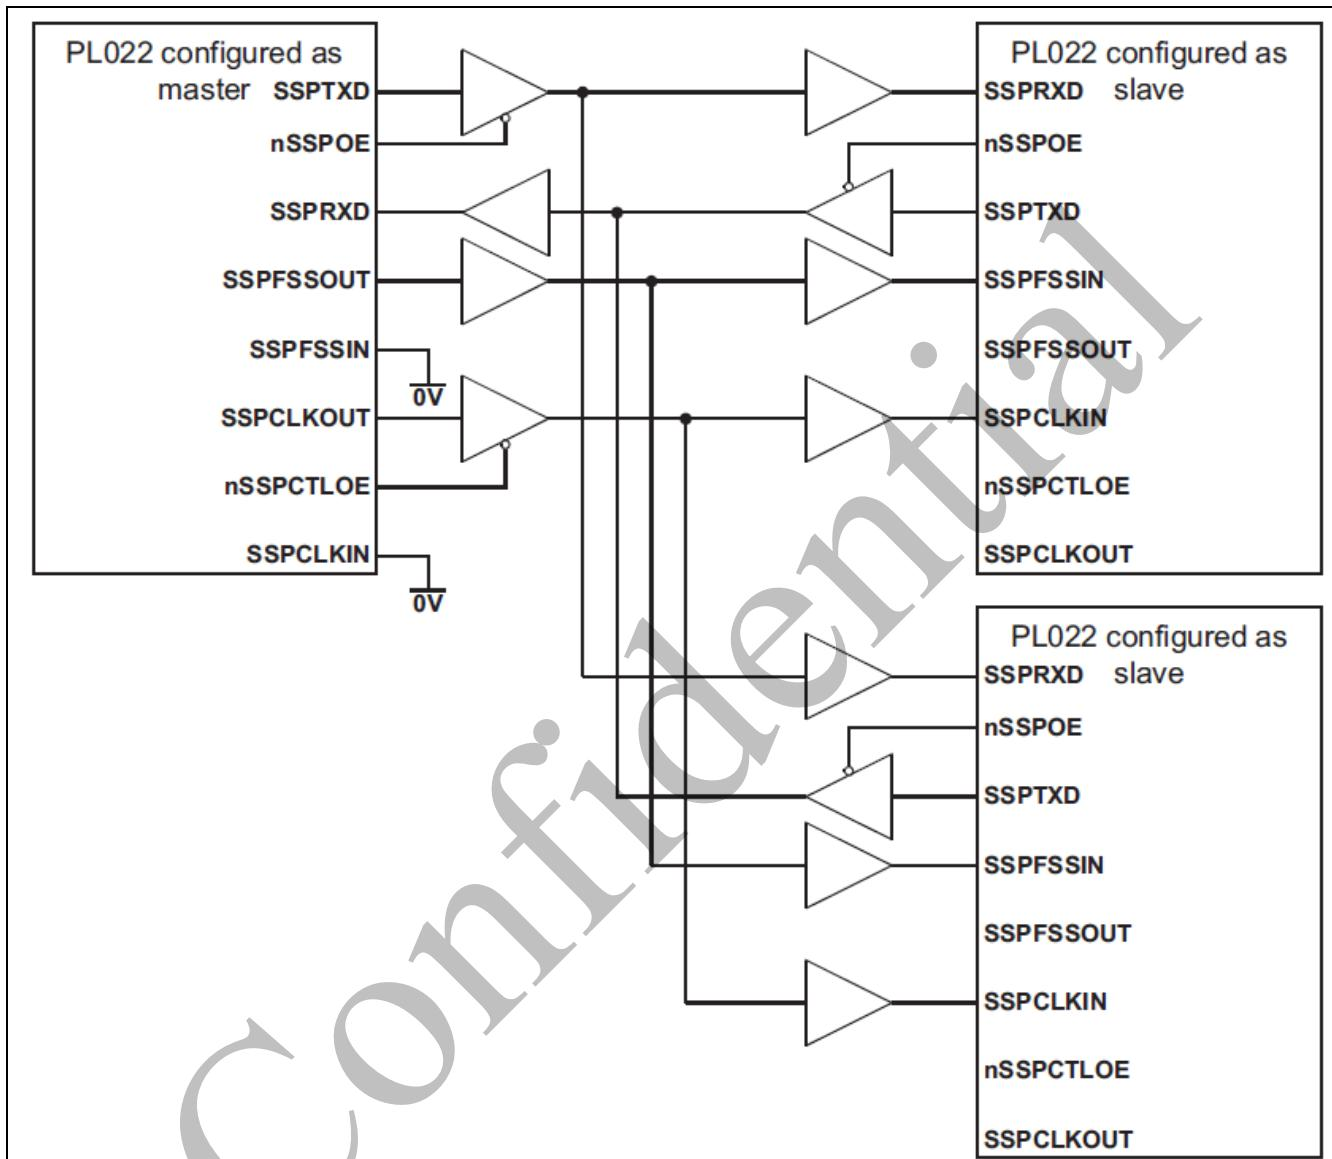
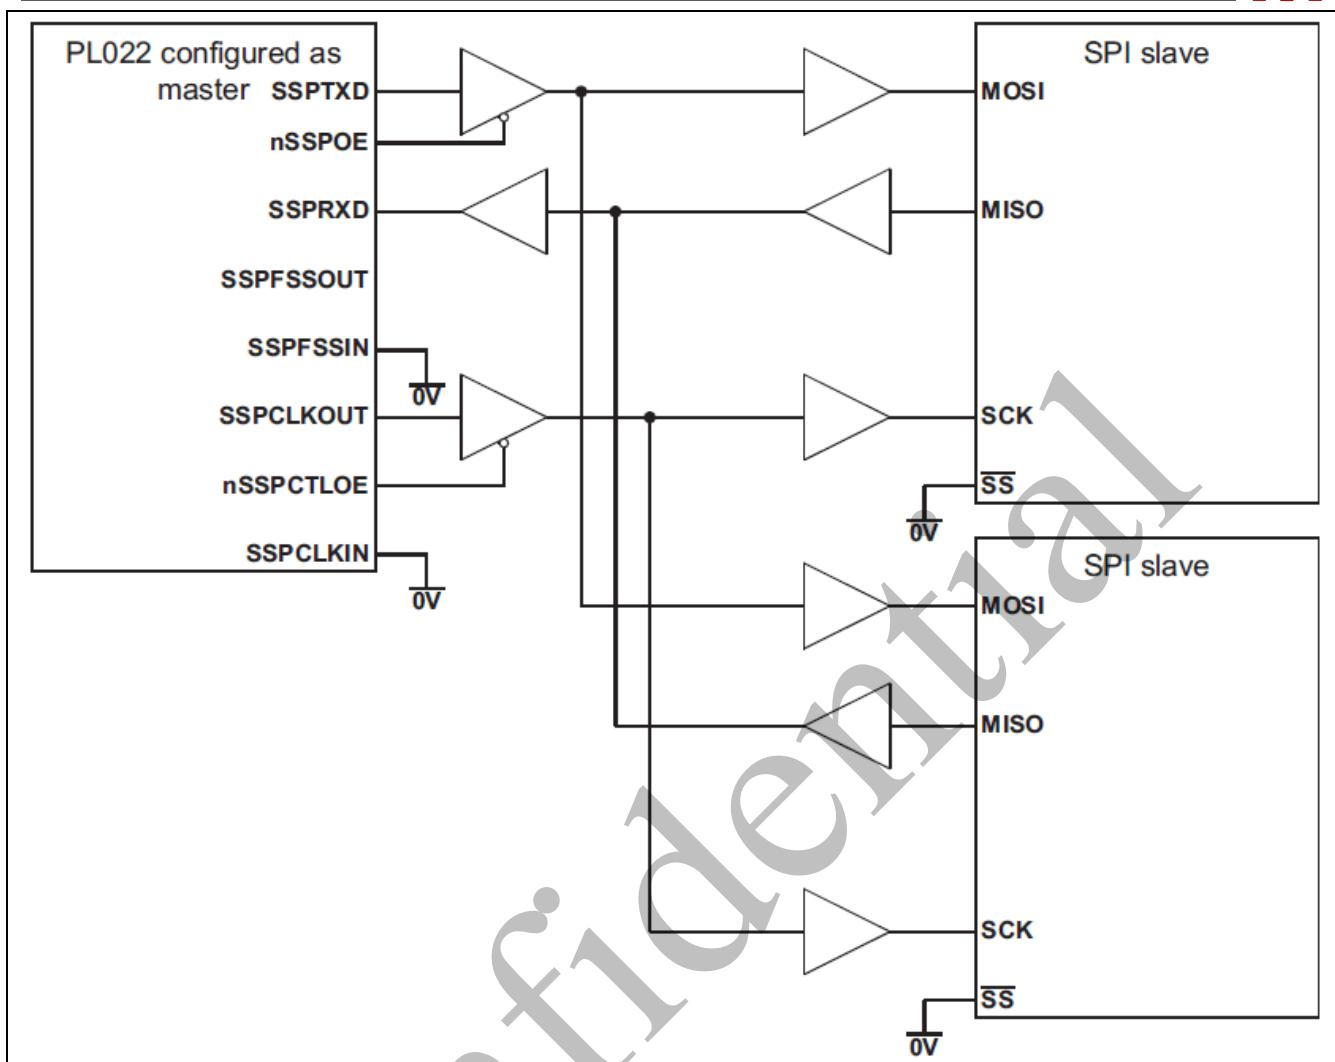
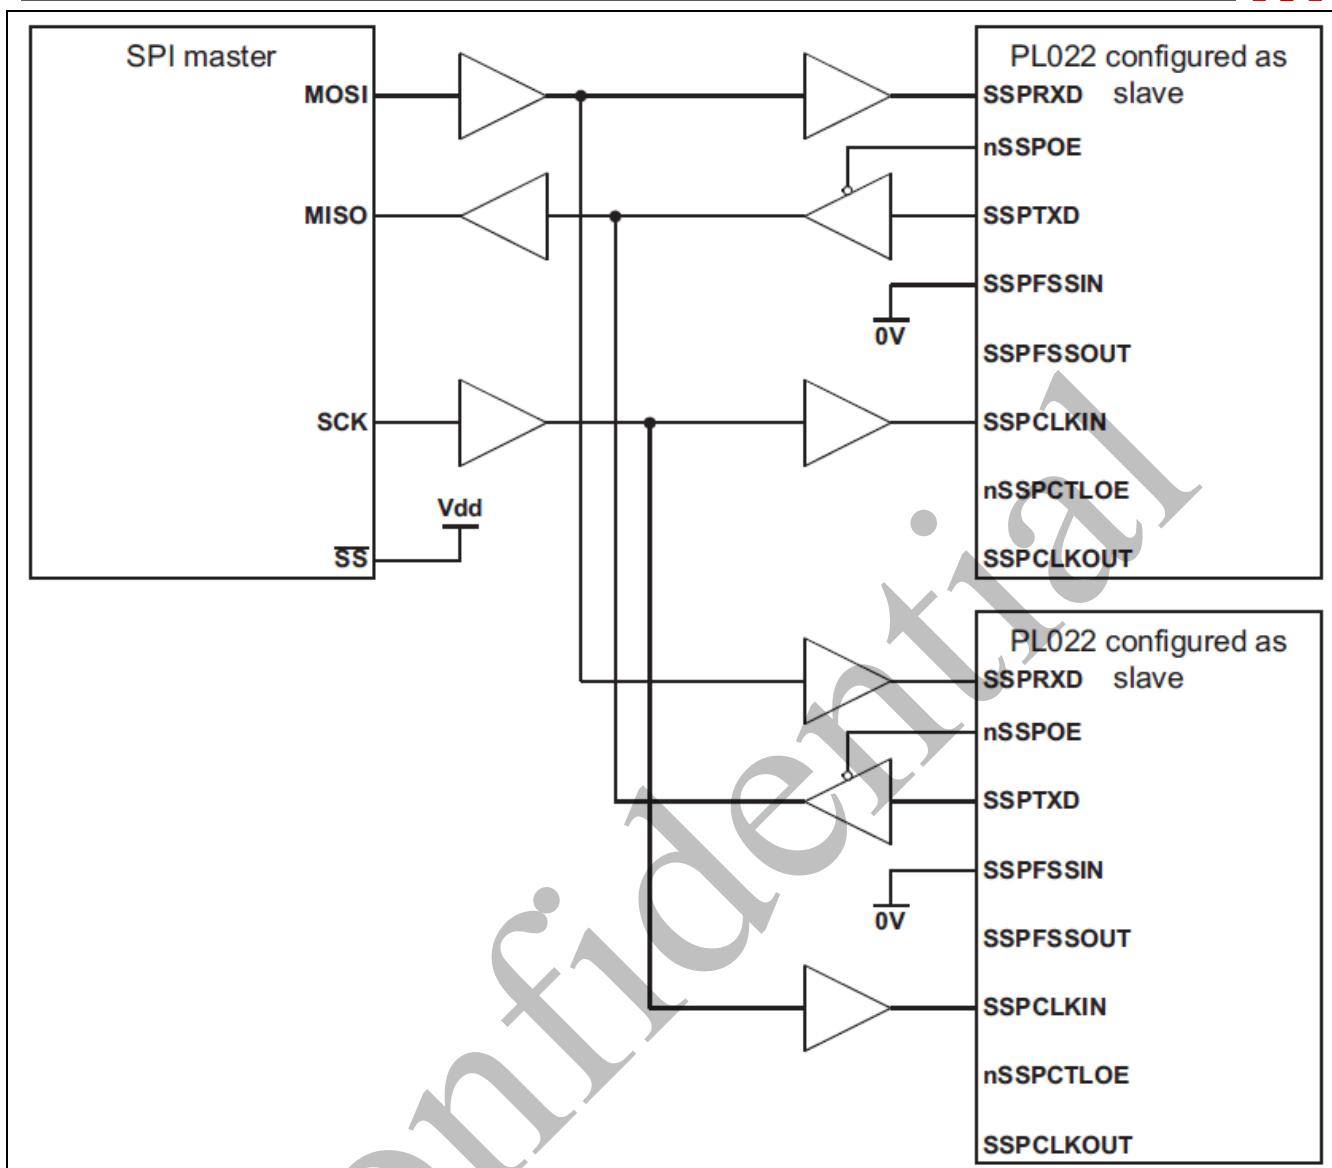

Figure 3-114 SSP master coupled to two slaves
Figure 3-115 SSP master coupled to two slaves
Figure 3-116 SPI master coupled to two SSP slaves
Figure 3-114, Figure 3-115 and Figure 3-116 show how the SSP peripheral can be connected to other synchronous serial peripherals, when it is configured as a master or slave.
Figure 3-114 shows the SSP instanced three times, as a single master and two slaves. The master can broadcast to the two slaves through the master SSPTXD line. In response, only one slave drives its nSSPOE signal HIGH, thereby enabling its SSPTXD data onto the SSPRXD line of the master.
Figure 3-115 shows how an SSP, configured as master, interfaces to two Motorola SPI slaves. Each SPI Slave Select (SS) signal is permanently tied LOW and configures them as slaves. Similar to the above operation, the master can broadcast to the two slaves through the master SSP SSPTXD line. In response, only one slave drives its SPI MISO port onto the SSPRXD line of the master.
Figure 3-116 shows a Motorola SPI configured as a master and interfaced to two instances of SSP configured as slaves. In this case the slave Select Signal (SS) is permanently tied HIGH and configures it as a master. The master can broadcast to the two slaves through the master SPI MOSI line and in response, only one slave drives its nSSPOE signal LOW. This enables its SSPTXD data onto the MISO line of the master.